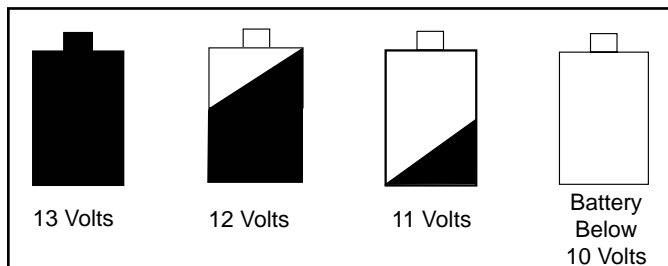

Figure 10.3
- A battery icon appears on your wall control to let you know you are now operating on battery power. **Figure 10.3.**